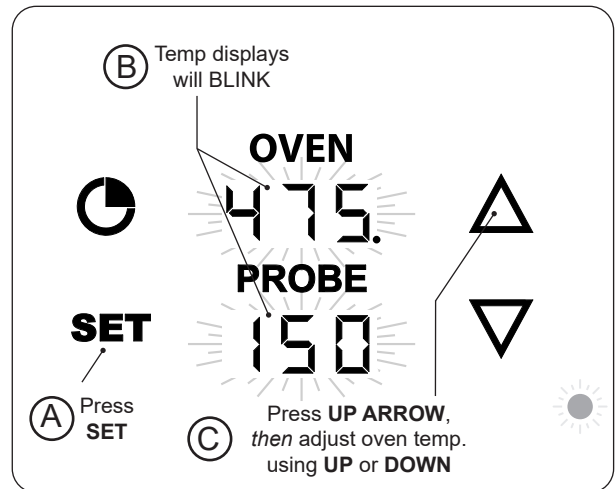

Fig. 39-1 Set oven temp.
1. With the thermometer/thermostat **on**, press the **SET** button once. The oven and probe displays will blink. (While blinking, either area can be selected to enter their settings.) See Fig. 39-1, A and B.
2. Press the **UP ARROW** to select the oven temp settings, then use the up or down arrows to set the desired temp. (Fig. 39-1, C).